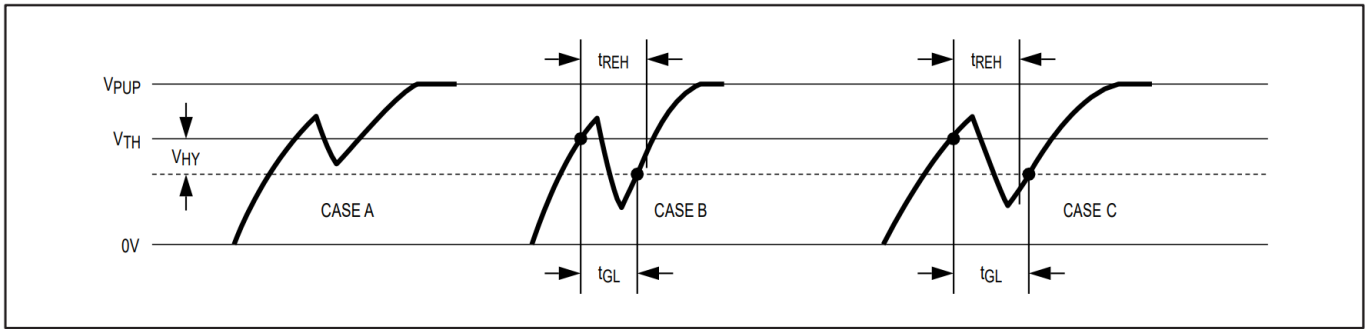

Figure 13. Noise Suppression Scheme
2) There is a hysteresis at the low-to-high switching threshold  $V_{TH}$ . If a negative glitch crosses  $V_{TH}$  but does not go below  $V_{TH} - V_{HY}$ , it is not recognized (Figure 13, Case A). The hysteresis is effective at any 1-Wire speed.
3) There is a time window specified by the rising edge hold-off time  $t_{REH}$  during which glitches are ignored, even if they extend below the  $V_{TH} - V_{HY}$  threshold (Figure 13, Case B,  $t_{GL} < t_{REH}$ ). Deep voltage droops or glitches that appear late after crossing the  $V_{TH}$  threshold and extend beyond the  $t_{REH}$  window cannot be filtered out and are taken as the beginning of a new time slot (Figure 13, Case C,  $t_{GL} \geq t_{REH}$ ).